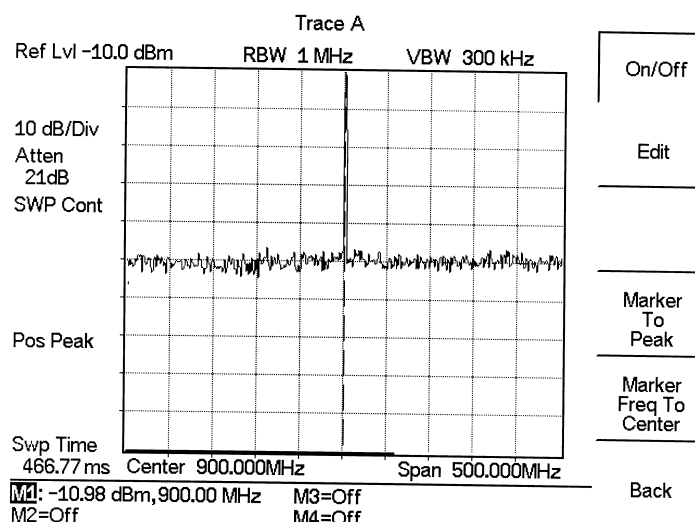

Figure 2-18. Activated Normal Marker
The marker reads both the frequency and the amplitude, and it displays these values in the message area at the bottom of the display. In this case, the marker will read 900 MHz and approximately -10.00 dBm, as shown in Figure 2-18.
- Step 4.** Read both frequency and the amplitude values identified by the selected marker. These values are displayed in the message area at the bottom of the display (Figure 2-18). The current marker is highlighted.